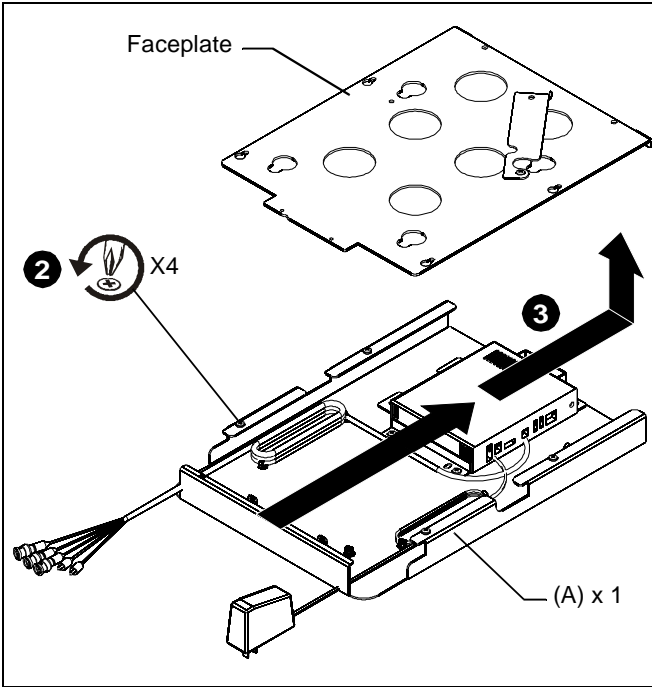

Figure 1
2. Loosen four Phillips pan head screws securing faceplate to mount assembly. (See Figure 1)
3. Slide faceplate away from four Phillips pan head screws and lift off of mount assembly (A). (See Figure 1)